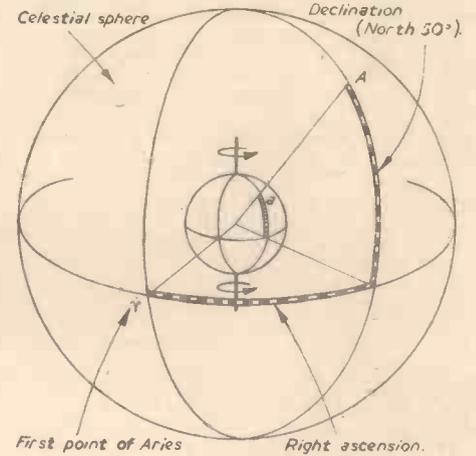

Fig. 4.—The celestial sphere with the earth as the centre of the universe surrounded by the stars.
tion the earth can be considered to be the centre of the universe, with the stars surrounding it on the inside of a huge fixed sphere. Inside this sphere the earth rotates on its axis. This is shown in Fig. 4.
Like the earth the huge celestial sphere can be divided up, though in this case the divisions are not called longitude and latitude. Directly over the earth's poles there are the celestial poles, and opposite the earth's equator there is the celestial equator. Also there is a point on the celestial equator from which measurements are taken, this is called the first point of Aries and is shown (Y) in Fig. 4. This point is actually the position of the sun on the 21st of March, and is used in all measurements of the positions of the stars.
Take, for example, a star on the celestial sphere as (A) in Fig. 4. Its position can be given as so many degrees to the right of the first point of Aries, this being known as the right ascension, and so many degrees north or south of the celestial equator, this
Fig. 5 shows what a man would see looking down on the earth from the north celestial pole, assuming that it is one hour after the longitude of Greenwich has passed under the first point of Aries. In other words, as the earth turns through 360 deg. in 24 hours the angle made between the first point of Aries and the longitude of Greenwich will be $\frac{1}{24}$ of 360 or 15 deg. Also assume that the right ascension of the star (A) is known, say, 60 deg. From this it is obvious that the angle between the longitude of Greenwich and the longitude of the person at (a) is $60 - 15$ or 45 deg. In other words the longitude of the person at (a) is 45 deg. east of Greenwich. If the declination of the star is also known, say, it is 50 deg., it follows that this is equal to the latitude of the person at (a). This is made clear in Fig. 4. Thus in the case chosen the exact position of the person at (a) is 45 deg. East, 50 deg. North, and from a map it will be seen that this is in Russia near Stalingrad.